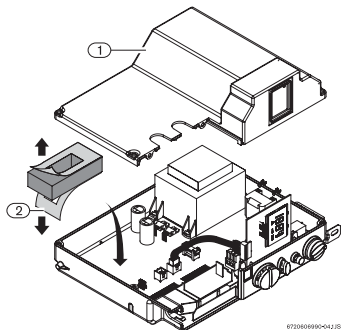
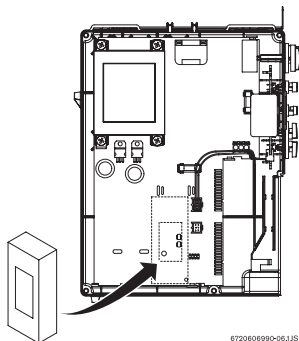

Fig. 5
Fig. 6 Support correct position
- ▶ Remove the protective cover (Fig. 5, pos. 2) from one face of the support and attach it to the main PCB as shown in Fig. 6.
- ▶ Replace the control unit cover with the 4 Philips head screws (Fig. 5, pos. 1).